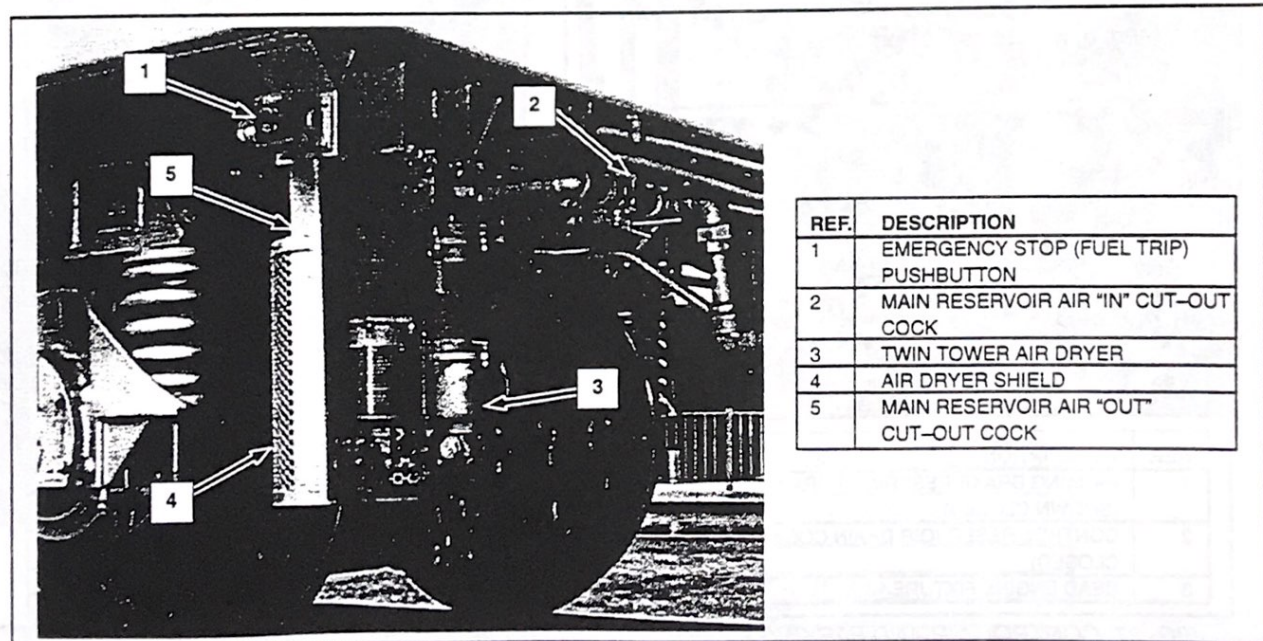

FIG. 25. LOCOMOTIVE TWIN-TOWER AIR DRYER SYSTEM. E-41056A.
5. Dryer Cut-Out cocks – (Items 2 and 5, Fig. 25) cut-out cocks located before and after the main reservoir air dryer (Item 3, Fig. 25).